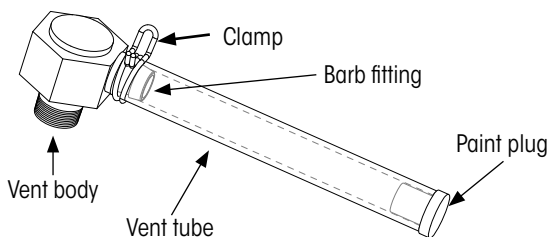
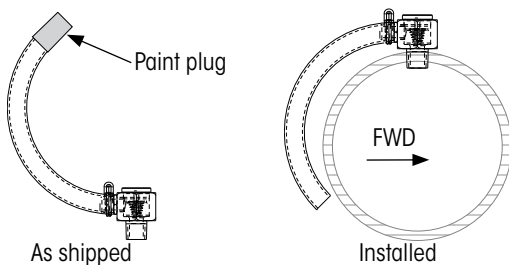

Figure 17: INTRAAX®/VANTRAAX®/ULTRAAX-K® axle vent assembly
Figure 18: TRLAXLE axle vent
NOTE: As shown in Figure 18, the axle vent for TRLAXLE® uses a curved tube that is shipped pointing up for ease of installation.
3. If present, **remove and discard** paint plug, Figure 17 and Figure 18.